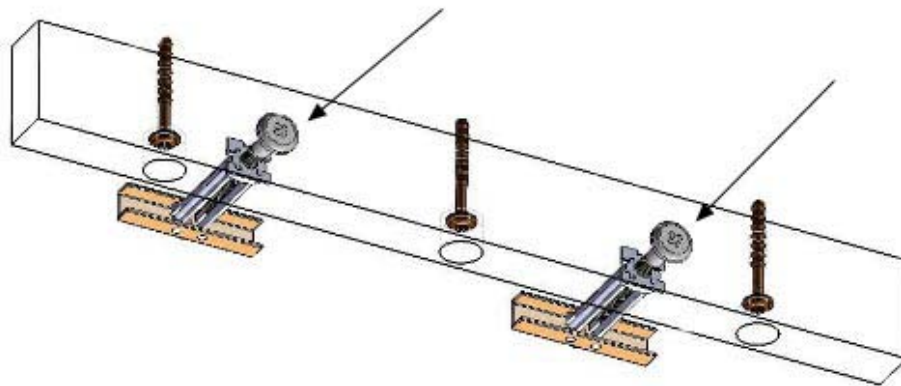

Figure 2
5. Using the round head bolts provided, attach the wave cube to the wall anchors through the 2 pre-drilled holes in the cleat (**Figure 2**).